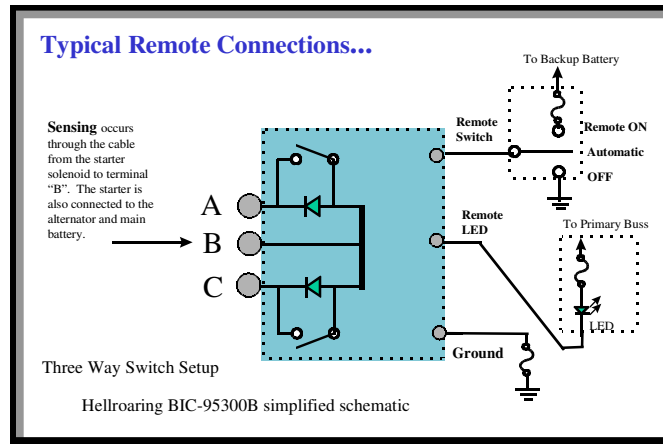

Figure 1
- 8) If you desire to use the remote switch or remote LED, make those connections at this time. If you purchased the optional **Remote Module**, follow the instructions provided with that package then go to step 9. For reference, the LED “short lead” is the cathode and should be connected to the Remote LED terminal. The long lead is connected to a **fused** 12 volt source. Refer to Figure 1 for the typical connections.